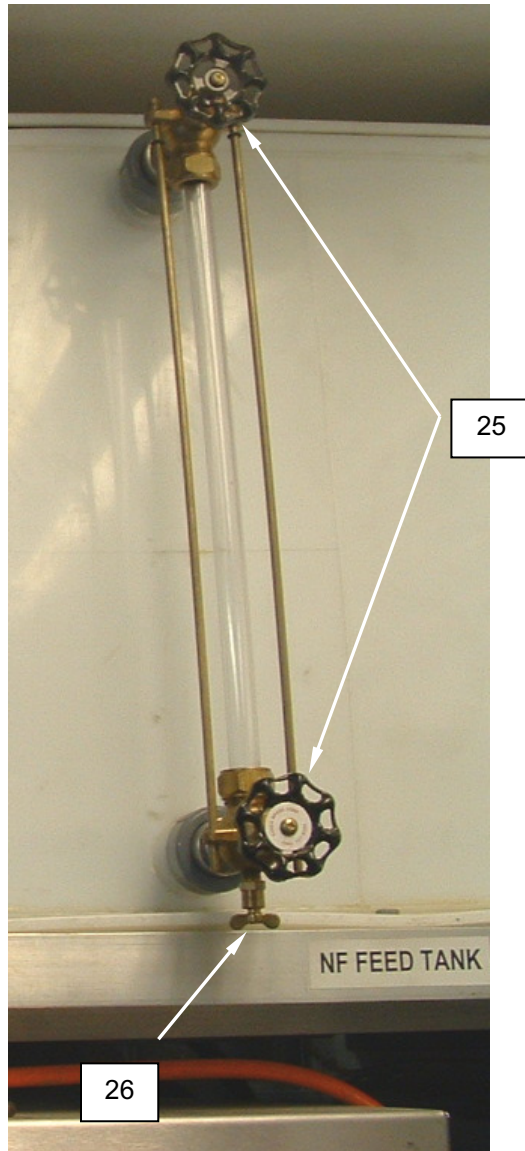

Figure 15. Sight Glass Valves.
12. Ensure the sight glass isolation valves (**Figure 15, Item 25**) are open and the sight glass drain petcocks (**Figure 15, Item 26**) are closed.